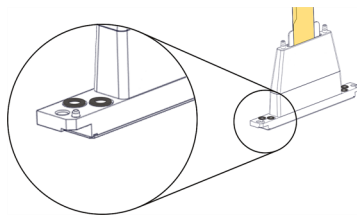

Figure 4-82 O-ring seals on the print head
17. Place four (4) O-ring seals in the replacement head (see Figure 4-82 on the previous page).